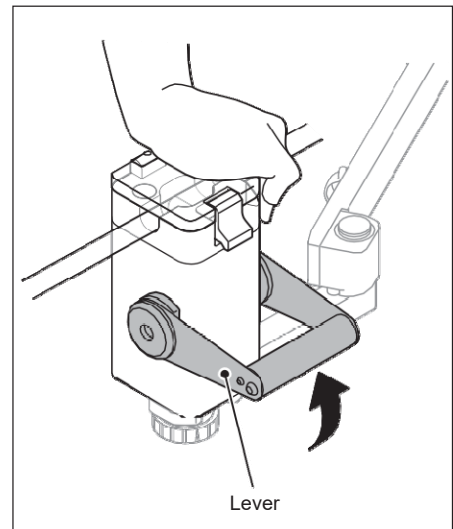

Figure 2-10
3. **Pull up the lever of the Fast Clamp until you hear a click, and remove the occlusion with the Fast Clamp. (Figure 2-10)**